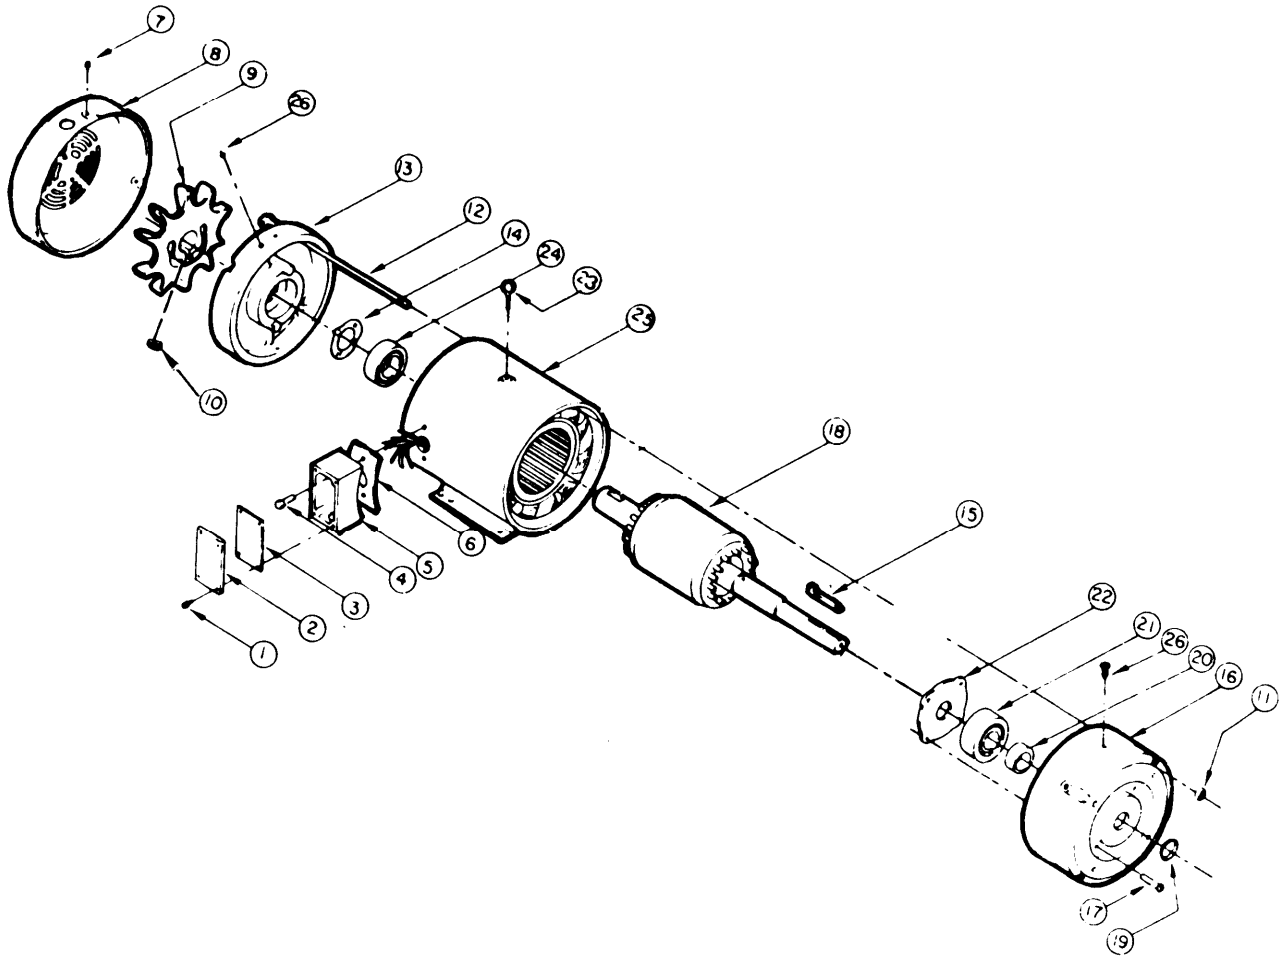

Figure 3-8. Backwash Pump Motor
b. Motor assembly. (Figure 3-8)
(1) If necessary, see paragraph 2-41 to remove backwash pump from frame and/or to remove power cable.
(1) Replace all used gaskets, seals, and O-rings.
(2) Replace all damaged nuts, bolts, screws, washers, shaft keys, Woodruff keys, and wavy washers.
(3) Replace damaged, worn, or unserviceable ball bearing assemblies.
(4) Repack serviceable clean bearings with fresh bearing grease.
(5) Deburr rotor shaft and remove any residue by buffing with fine emery cloth.
(6) Straighten bent or dented cooling fan blades and ventilation louvers.
(7) Replace damaged, unrepairable, or unserviceable motor casing assembly.
(8) Send unserviceable backwash pump motor assembly to next higher level of maintenance.
(9) Repaint, as needed, in accordance with Standard Operating Procedures.
g. Reassembly. (Figure 3-8
(1) If necessary, install eyebolt (23) in motor casing (25).
(2) If necessary, install two grease fittings (26) in fan-end plate (13) and pump-end plate (16).
(3) Press fan-end bearing (24) on rotor shaft (18).
(4) Slide bearing cover plate (22) on rotor shaft (18).
- (5) Press pump-end bearings (21) on rotor shaft (18).
- (6) Install bearing-lock ring (20) on rotor shaft (18).
- (7) Install new seal (19) in pump-end plate (16).
- (8) Install rotor shaft (18) in pump-end plate (16).
- (9) Install four screws (17) through pump-end plate (16) and bearing cover plate (22).